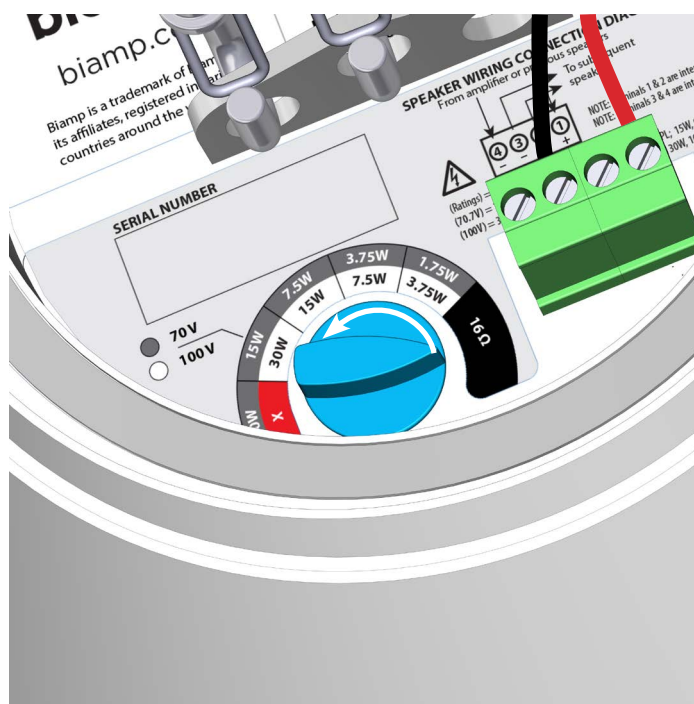

Figure 7.
9. Rotate knob to select the appropriate power tap setting on the top surface of the loudspeaker (Figure 7).